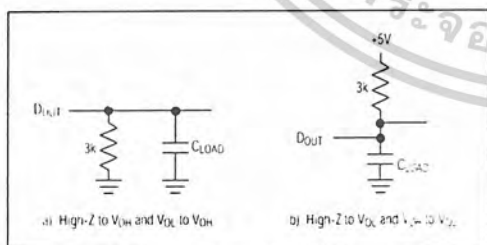

Figure 2. Load Circuits for Enable Time
**Note 12:** tDO is measured with the load circuits of Figure 2 and defined as the time required for an output to cross 0.8V or 2.4V.